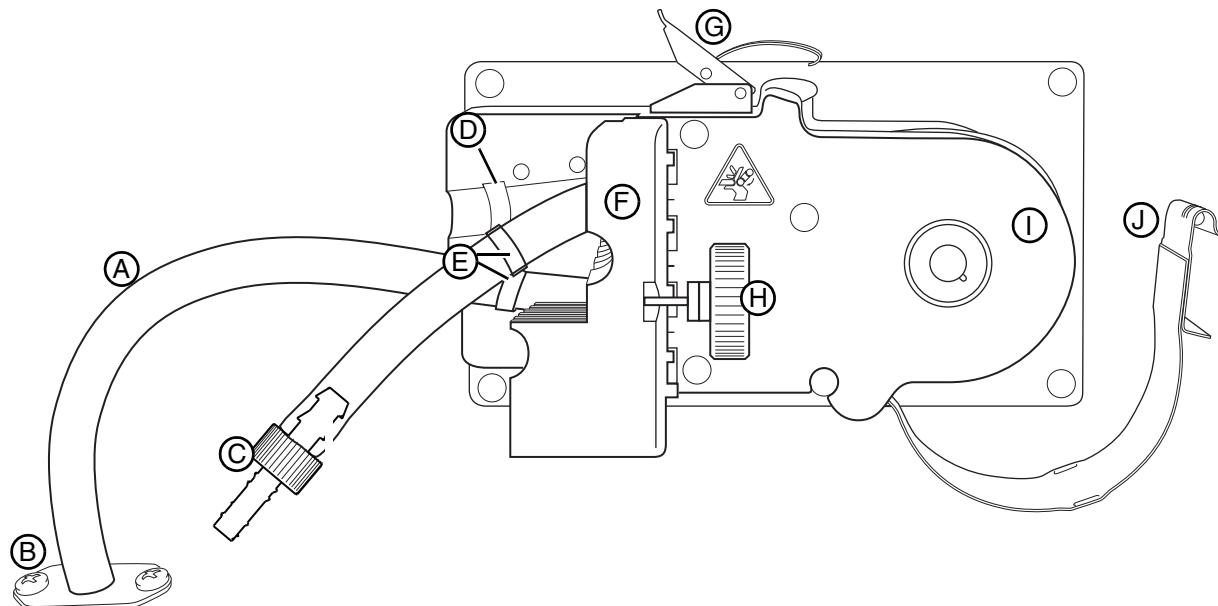

Figure 5-1 5800 Pump
2. Refer to Figure 5-1. Release the latch (H) securing the metal pump housing band (K).
Refer to Figure 5-1 and the following steps to replace the pump tube.